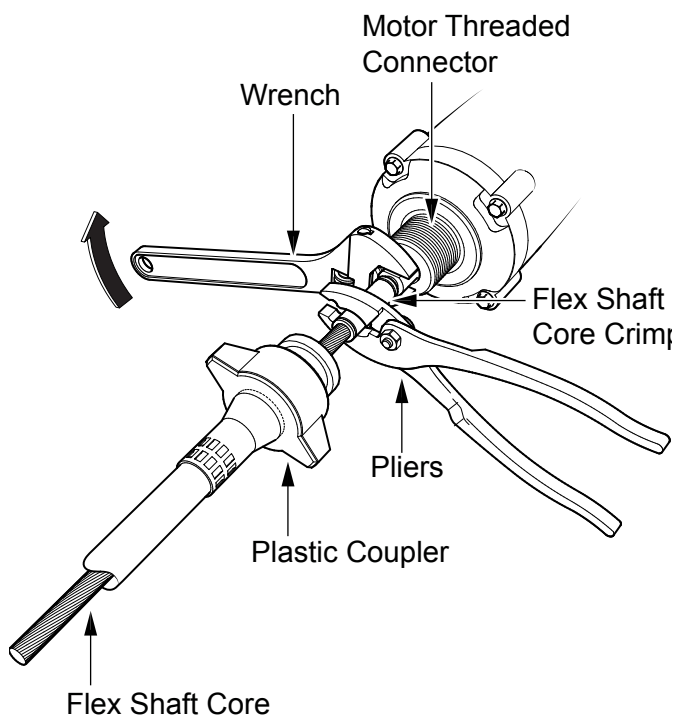

Figure 10. Removing Shaft from Motor
- Gently pull out flexible shaft collar to access the flex shaft core crimp. See Figure 10.